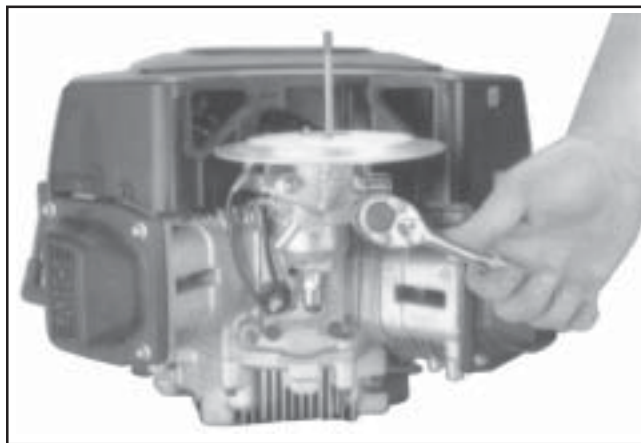

Figure 4-8. Removing Base on Commercial Mower Type Air Cleaner.
2. Remove the two nuts holding the air cleaner base to the carburetor (see Figure 4-8).